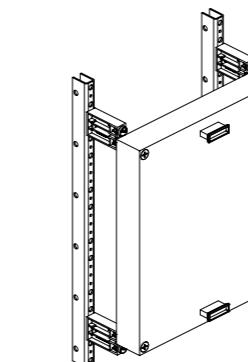

Fig. 2: Electric shock protection used as a hood
- or mounted as a hood (Fig. 2) 93.5 mm top edge system support rail